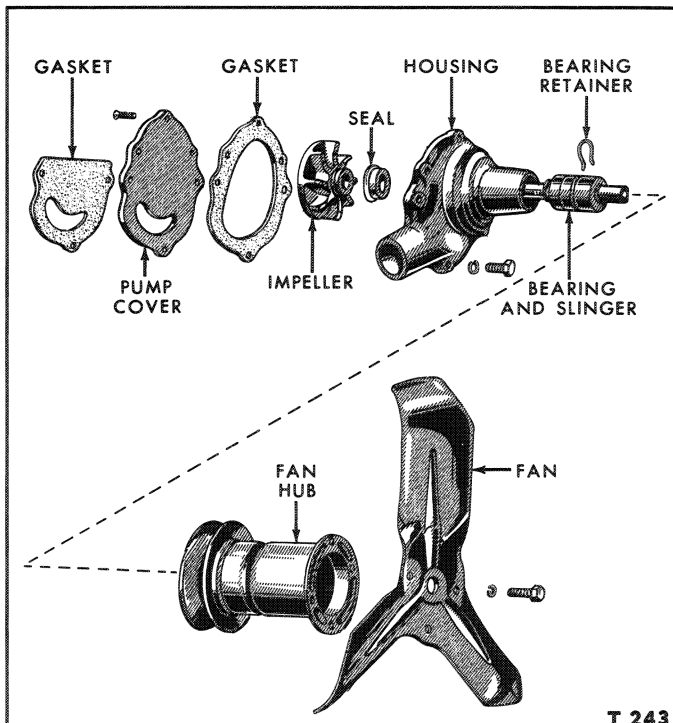
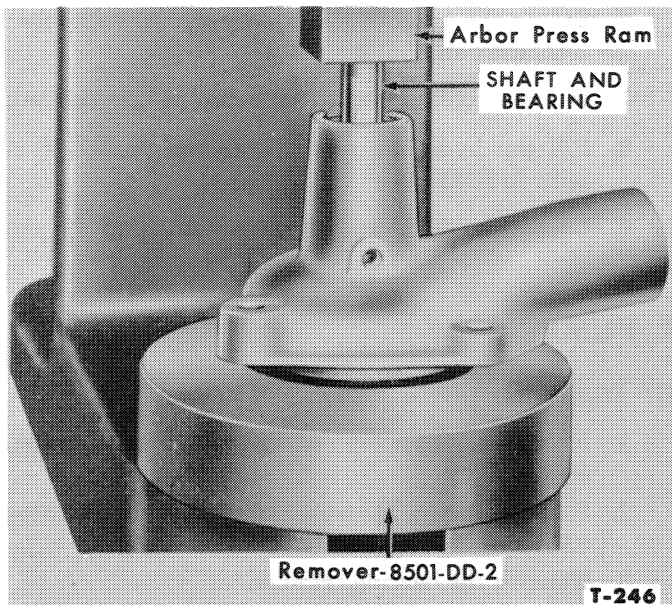

Figure 3—Water Pump Disassembled
Figure 5—Installing Water Pump Shaft and Bearing
A repair kit is available for servicing the pump. Figure 3 shows the pump disassembled.
1. Remove the pump cover and cover gasket, Figure 3.
1. Press the shaft and bearing assembly into the housing as shown in Figure 5. Position the retaining clip groove so that it is aligned with the groove in the housing. Install the bearing retainer, Figure 3, on the bearing.